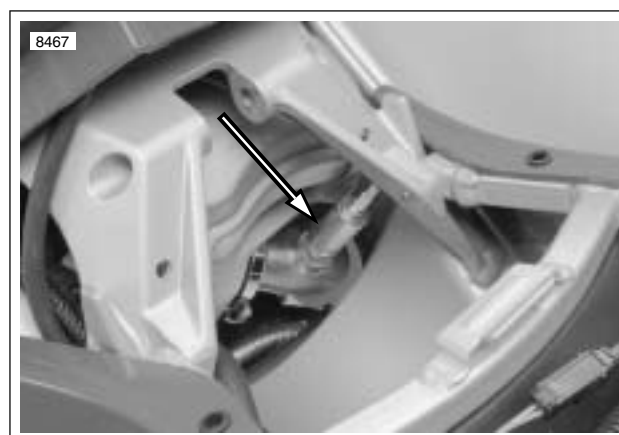

Figure 4-35. Oxygen Sensor (shock absorber removed)
- **Loose oxygen sensor.** See Figure 4-35. If the oxygen sensor is loose engine performance may be affected. This could also show up as a slow changing oxygen sensor voltage.